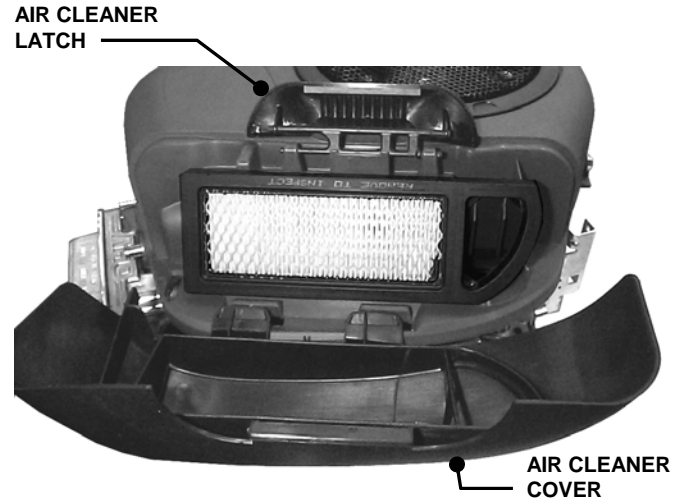

FIGURE 3.5
2. Change air filter. Pull up and rotate the air cleaner latch to remove cleaner cover. See Figure 3.5.